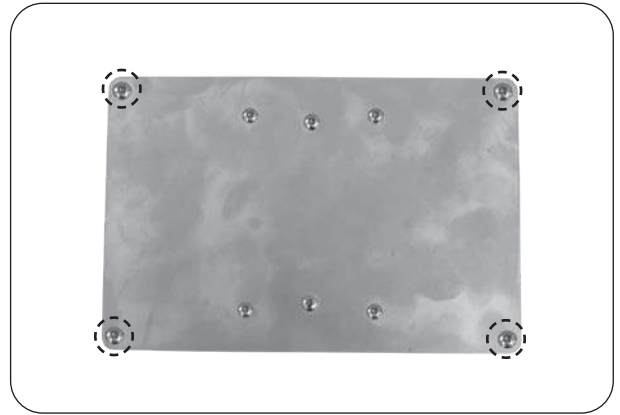

Fig. 40-1 Remove 4 large screws
2. Using a phillips screwdriver, remove the 4 large screws found on the cover of the power supply box (see Fig. 40-1).